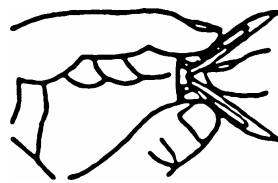
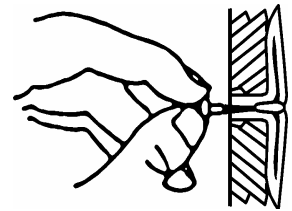

Figure 17
Figure 18
**STEP 4:** To use wall anchors, drill holes at marked location using 5/16" drill bit. Fold wall anchor (see Figure 17) and insert (wings first) into hole. Tap anchor flush into wall. For thin walls, insert red key into wall anchor and push to 'pop' open anchor wings (see Figure 18).